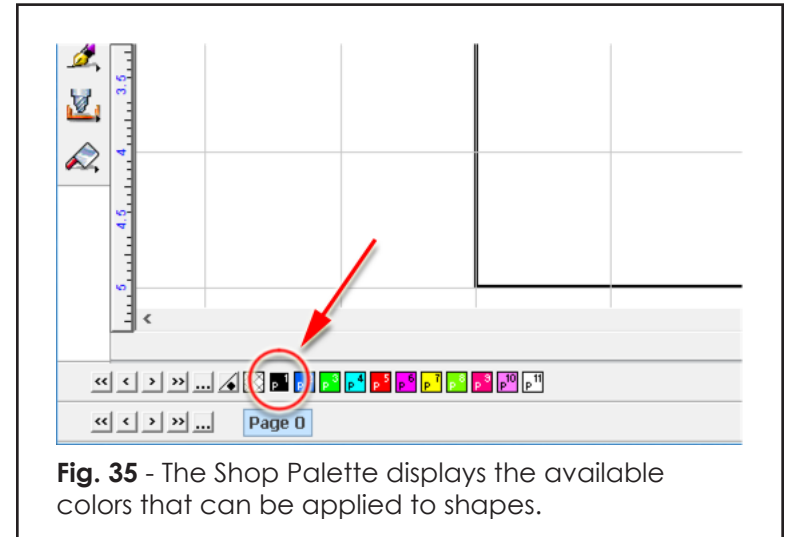

Fig. 35 - The Shop Palette displays the available colors that can be applied to shapes.
20. Within the **Shop Palette**, left-click the first **Black** color plate (Fig. 35). This will set the fill color to Black.